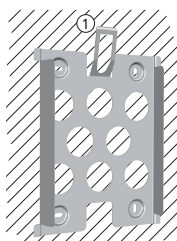

Figure 25
- The mounting plate must lie flat on the mounting surface and the metal strips at the sides must point forwards (Figure 25).
- Install the mounting plate vertically with the retaining plate ① at the top (Figure 25).